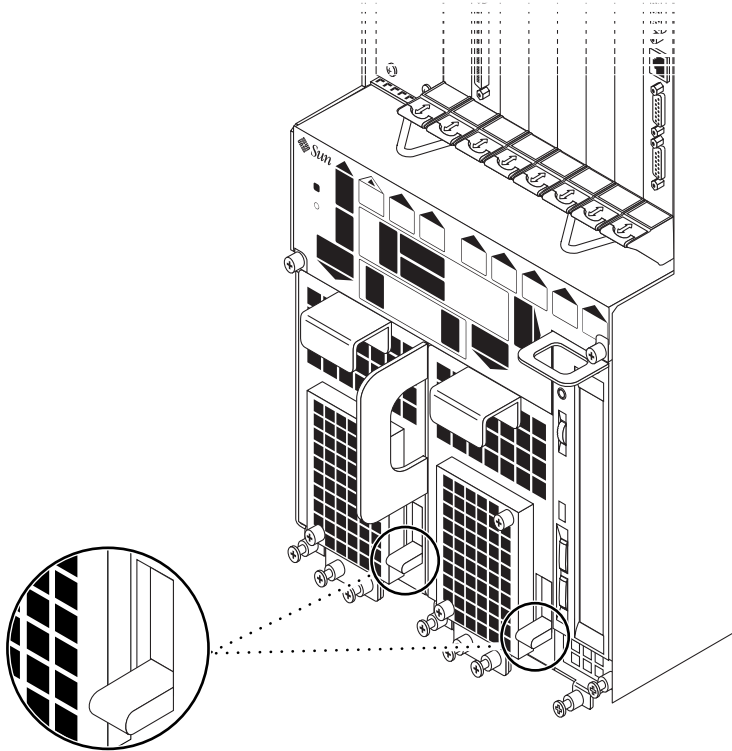
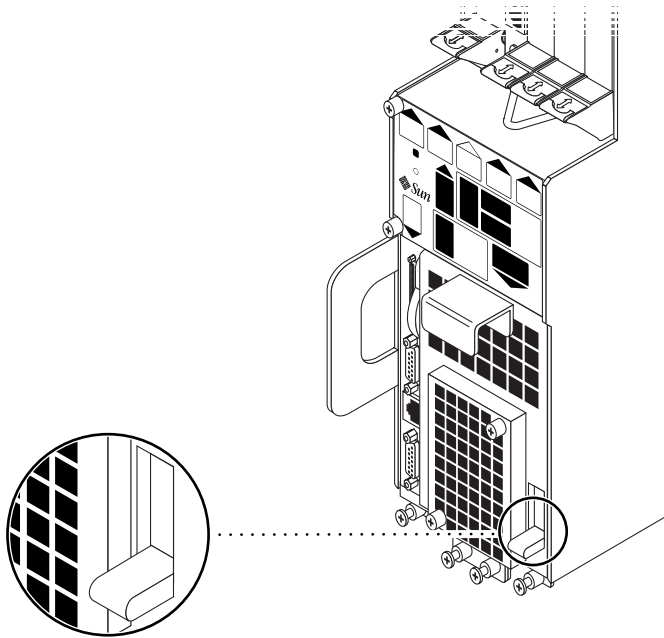

FIGURE 7-1 Locating the Power Supply Locking Mechanism on the Netra ct 800 Server
FIGURE 7-2 Locating the Power Supply Locking Mechanism on the Netra ct 400 Server
FIGURE 7-1 shows the location of the two power supply locking mechanisms on the Netra ct 800 server, and FIGURE 7-2 shows the location of the single power supply locking mechanism on the Netra ct 400 server. Make sure you lock *both* power supplies if you are powering on a Netra ct 800 server.
6. **If you want to completely power off the Netra ct server, push the purple power supply unit locking mechanism(s) up into the unlocked (⏏) position (see FIGURE 7-1 on page 122 for the Netra ct 800 server or FIGURE 7-2 on page 123 for the Netra ct 400 server).**
7. If you want to completely power off the Netra ct server, push the purple power supply unit locking mechanism(s) up into the unlocked (⏏) position (see FIGURE 7-1 on page 122 for the Netra ct 800 server or FIGURE 7-2 on page 123 for the Netra ct 400 server).